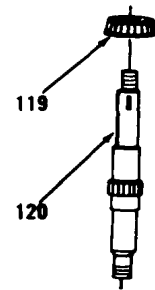

Figure 10-40.
- 57. Remove bearing (119) from shaft (120, Figure 10-40).